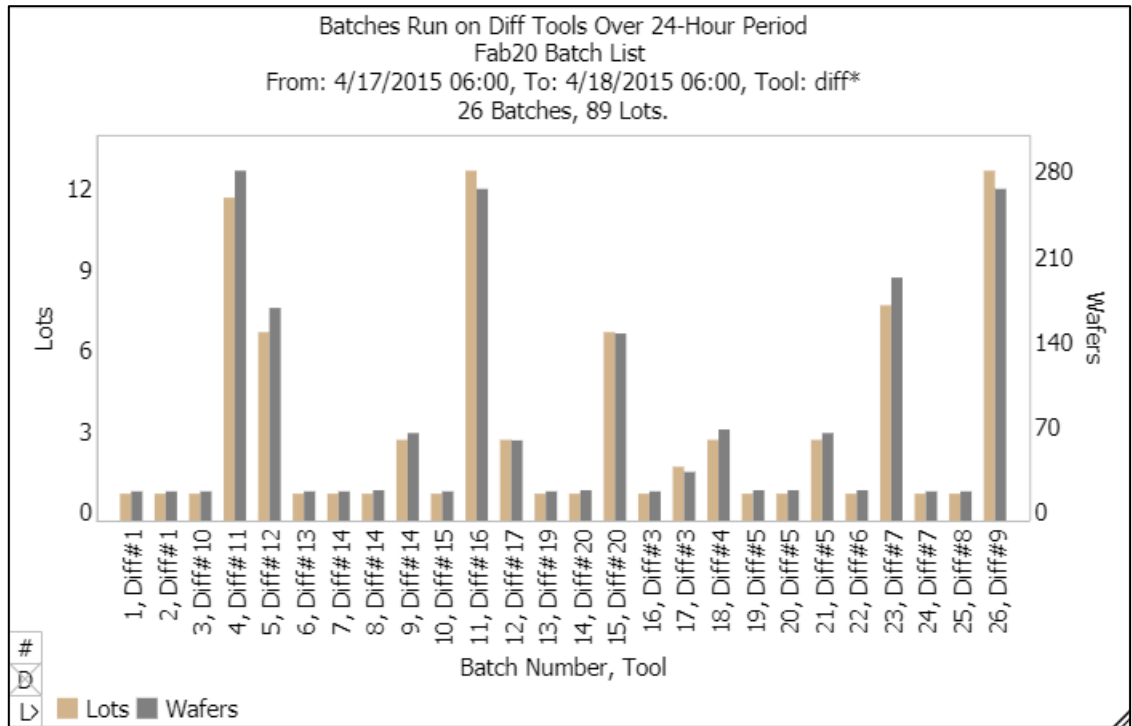

Figure 1. Example of Batch Lot List Chart
- Batch Lot List (list of individual lots grouped by batch number for selected batch tools during a time period). An example of a Batch Lot List Chart is shown below in Figure 1.